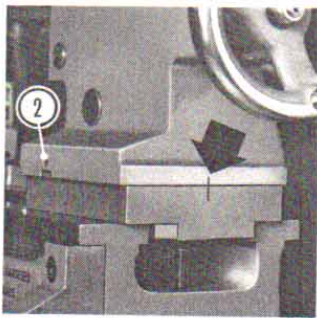

Fig. 26
The barrel is locked in place by the lever (5). The Tailstock can be set-over 11mm (.437") to the front, and 5mm (.187") to the rear, for taper turning, by first loosening the bed clamp and then adjusting the set-over screws (2), Fig. 26. A zero mark Fig. 26. is provided to serve as a rough guide to set-over amounts, and to assist in returning the tailstock to its normal position for parallel turning.